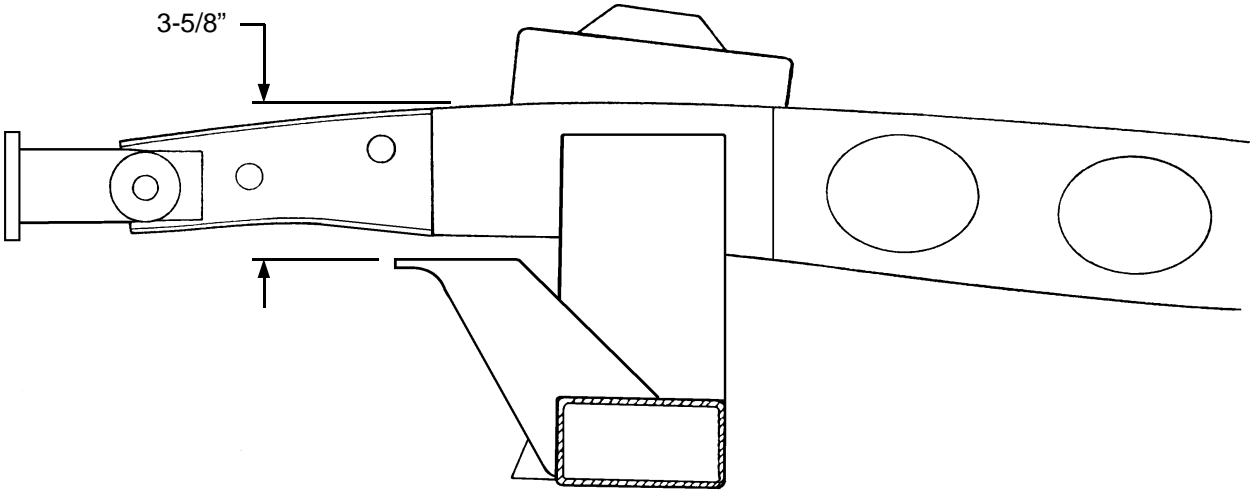

Figure 5
8. The radiator support is the last item. Center the support on the front of the crossmember and clamp or tack in place. Measure up from the top of the support to the top of the frame directly above the radiator perch, using a straight edge across the top of the frame rails. That dimension should measure 3-5/8", as shown in Figure 5. If it is too high and the dimension is less than 3-5/8", trim the base of the radiator support to bring it down to that dimension. Also check the clearance to the steering rack if any trimming is done to the radiator support. If the support is low, the radiator cradle assembly can be shimmed up to its correct position when it is bolted to the radiator support. Please note that this model car does not accept the power rack and pinion rack without serious modifications to the factory Ford geometry design, due to the much larger pinion housing and hydraulic lines, as they interfere with the stock radiator cradle. Power steering is absolutely not recommended for this car even if it would fit. The light front end weight, compared to a Mustang II, coupled with the extra ease of power steering, will cause you to lose the feel of the car on the highway.